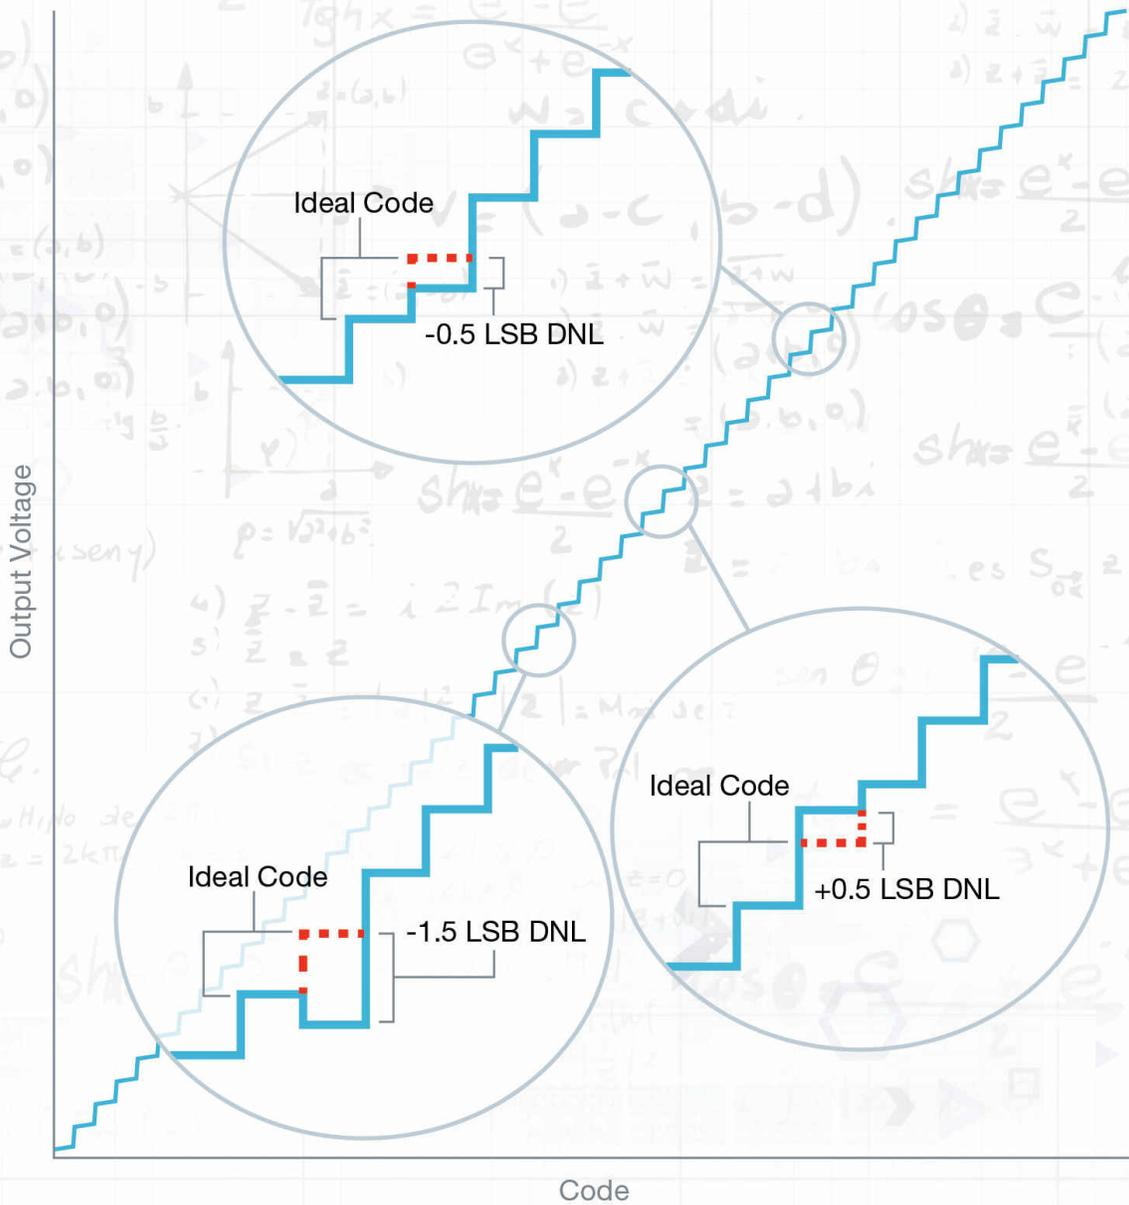

**Figure 38.** PWM deadband.
**Figure 38** illustrates a PWM output with both rising and falling edge delays applied. This method provides a means to delay the switching of a gate signal, thereby allowing time for gates to turn off and preventing a short circuit. To explain further, power-switching devices turn on faster than they shut off. This issue would momentarily provide a path from supply rail to ground, resulting in a short circuit. The separation of PWM signal transitions between the outputs is referred to as "dead-band"